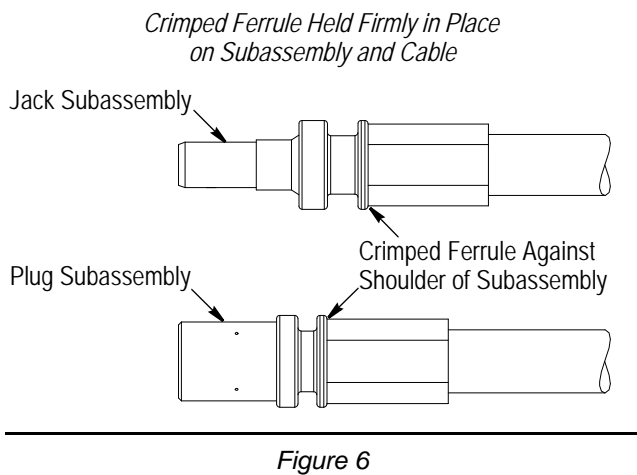

Figure 6
6. Visually inspect the the crimped ferrule according to Figure 6.